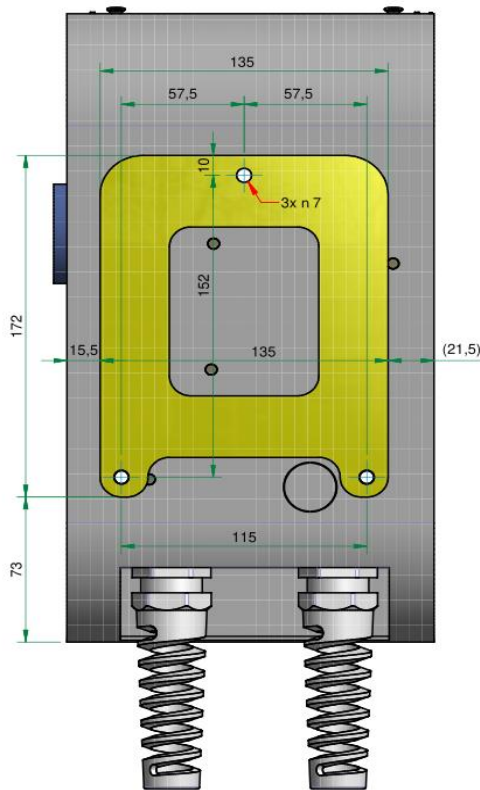

Fig. 6: Wallbox rear side with a pad
- Place the steel pad (yellow section in Fig. 6) to the required spot on the wall.